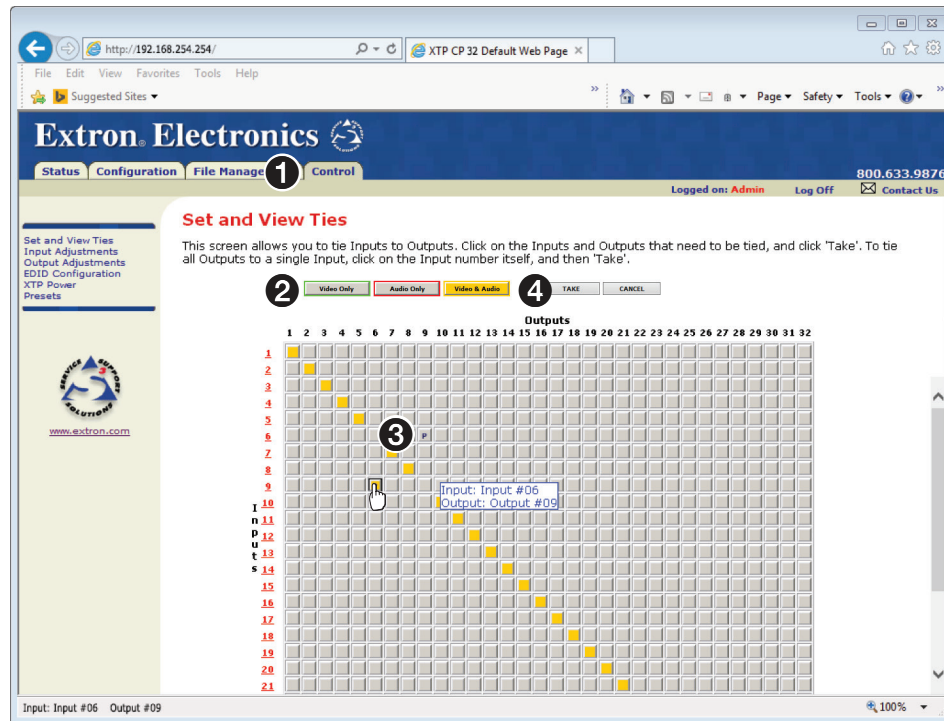

Figure 68. User Control Ties page
You can create ties on the **Set and View Ties** page. Access the **Set and View Ties** page by clicking the **Control** tab (see figure 68, ❶).
- If you lose track of the input and output associated with a specific button, let the mouse rest over one of the tie buttons for a moment. A field pops up (as shown on figure 68) that identifies the input and output for that button.
3. Click the **Take** button (❹) to make the configuration changes or the **Cancel** button to abandon the configuration changes.